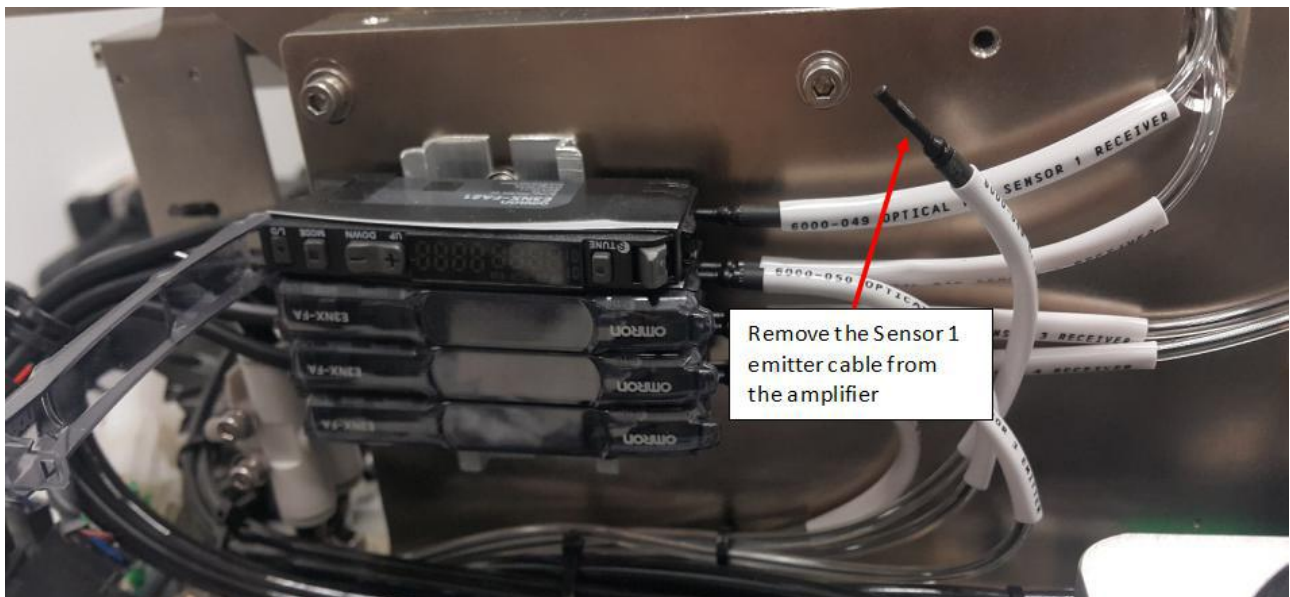

Figure 13 Sensor 1 Emitter Cable
4. Remove SHCS M4×12 (2x) and cable clamp as shown below in Figure 7. Remove entire Sensor 1 Emitter as shown from Figure 7 to Figure 13.